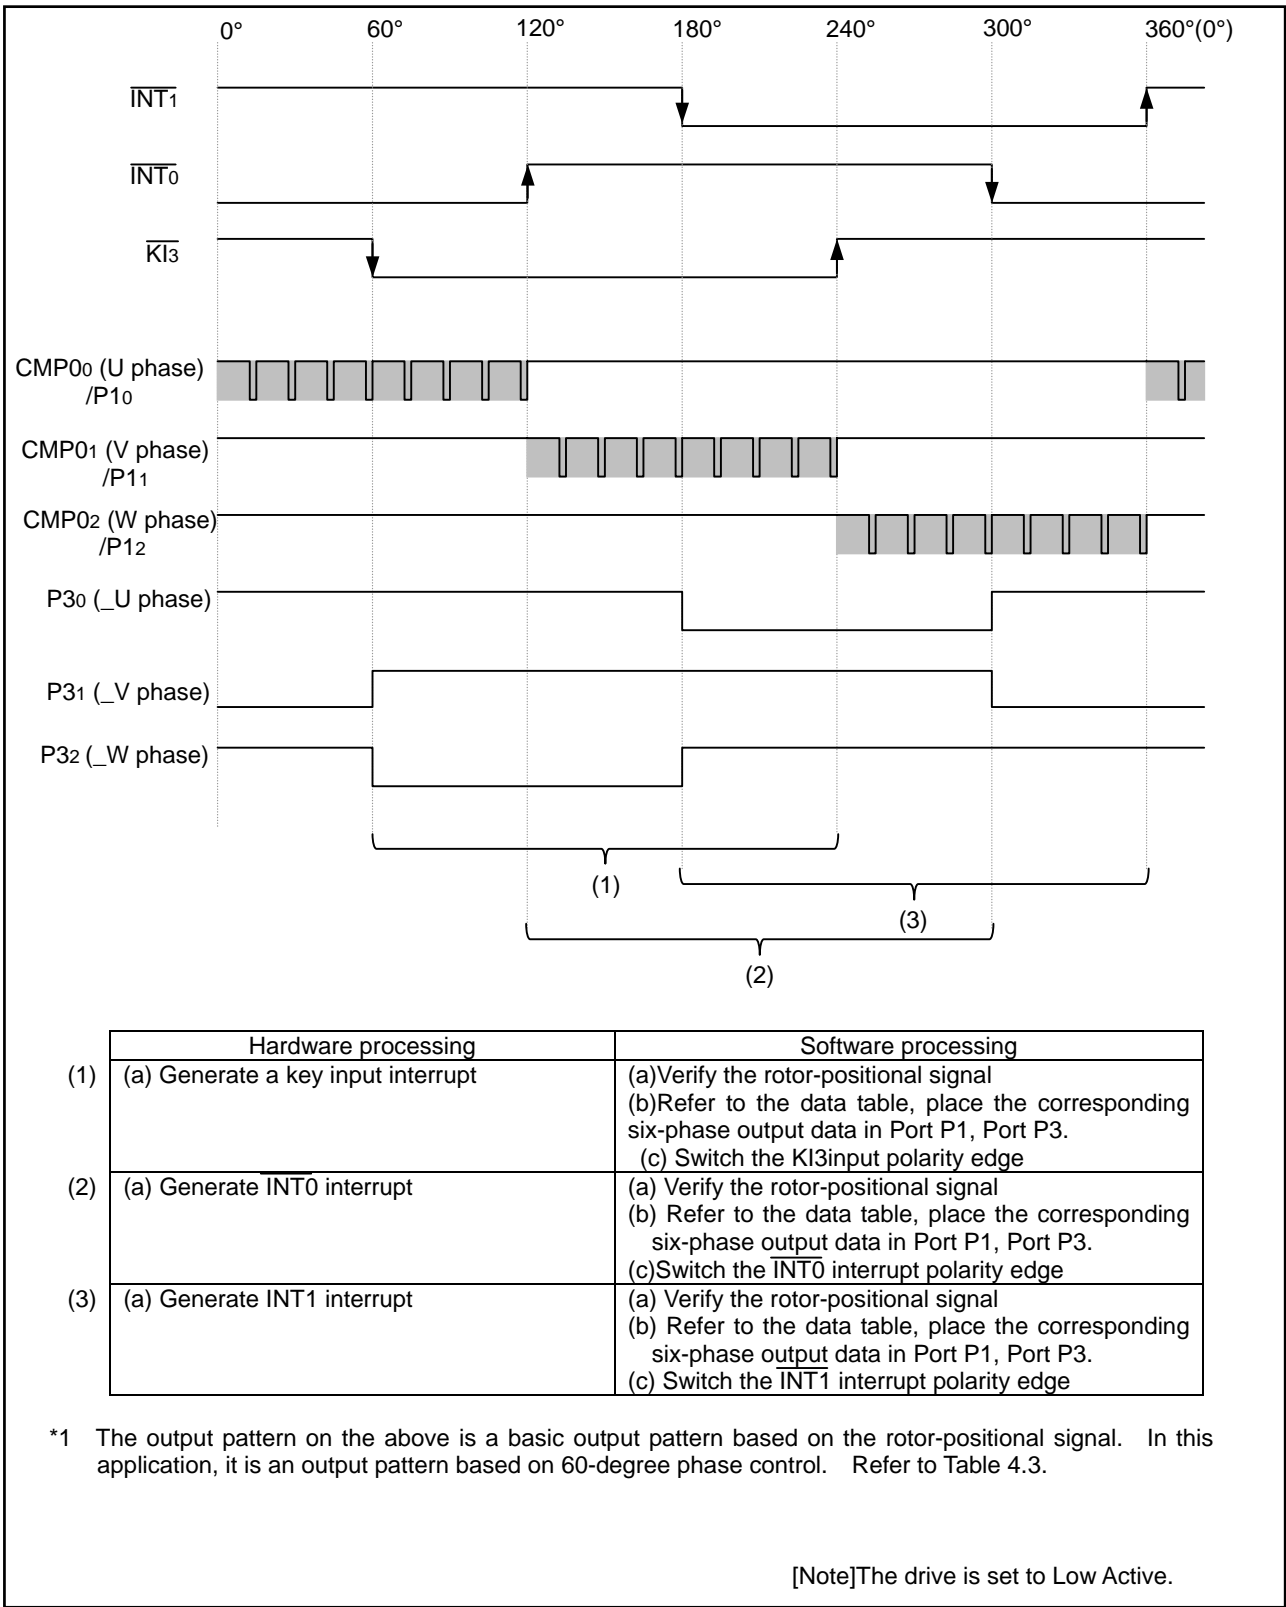

Figure 3.4 Principle of Motor Control Based on the Rotor-Positional Signal
2. Figure 3.4 shows the principle of control to make the magnetic field rotate in response to the rotor-positional signal. Control of the brushless DC motor is through hardware and software processing by the R8C/11 Group, based on the detected rotor-positional signal, as is shown in figure 3.4.